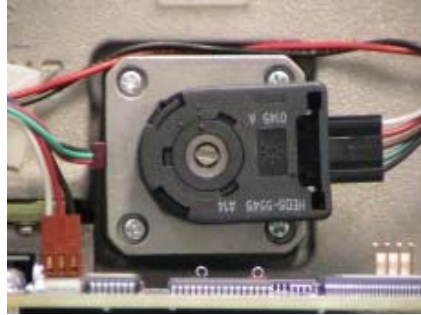

Figure 33 - Filter Position Adjuster
- * CCW will move the filter into the beam. See Figure 33.